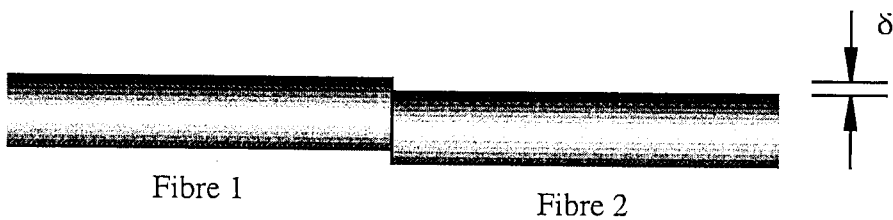

Figure 1.
- b) Two identical single-mode optical fibres have transverse modal fields that (to a reasonable approximation) vary radially as Gaussian functions, i.e. as $E(r) = E_0 \exp(-r^2/a^2)$. When the fibres are spliced together, a lateral offset δ is unfortunately introduced, as shown in Figure 1.